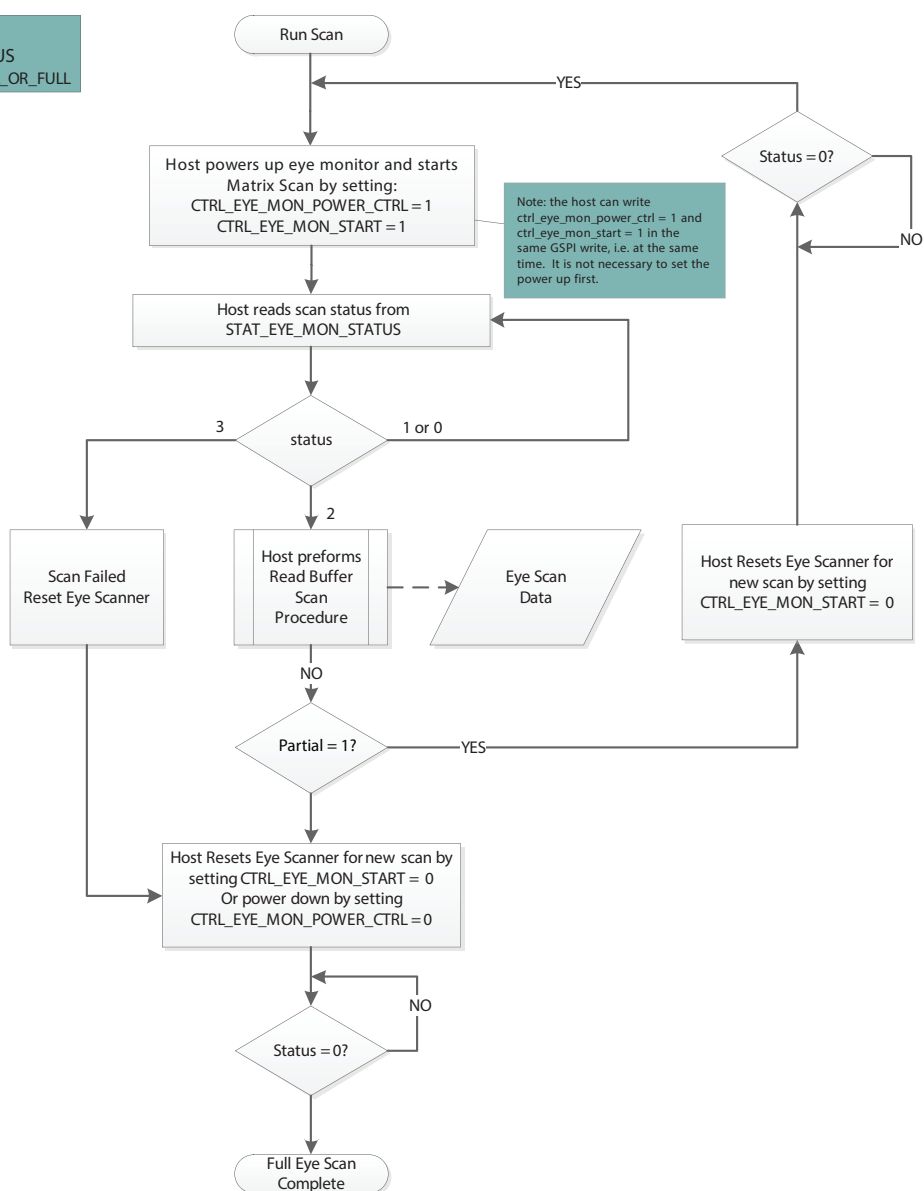

Figure 4-9: Matrix-Scan Flow Diagram
- 4) Start the scan and poll the scanner status register until the scan is complete. Please refer to the flow diagram in Figure 4-9.